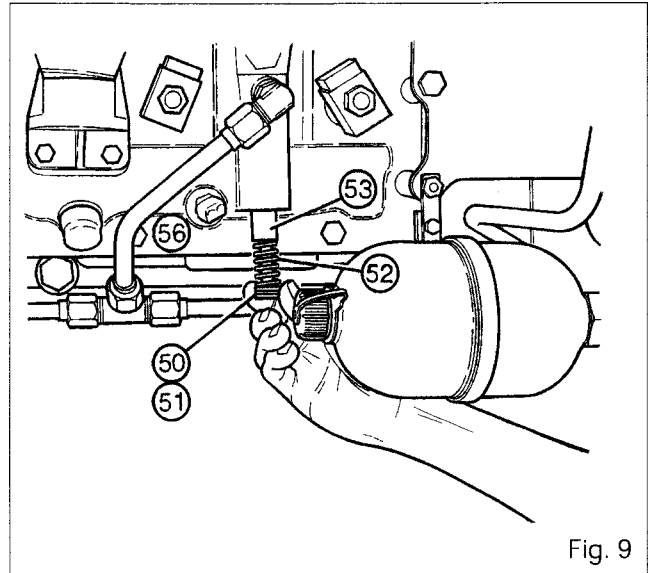

Fig. 9
As from serial number E032053 (Fig. 9), 6100 series tractors are equipped with a new selector cover (56).